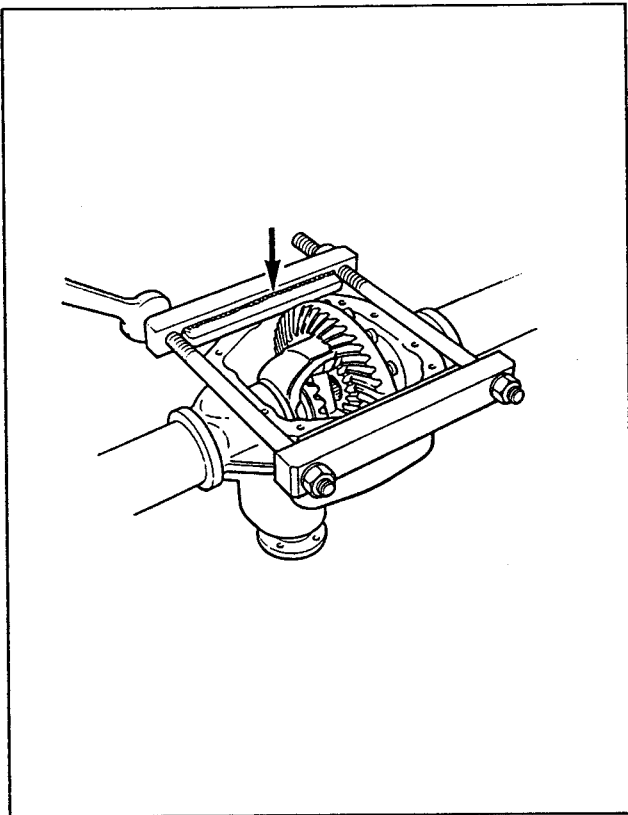

Fig. 11 Axle compression
13. To remove the differential case assembly it is necessary to relieve the preload from the differential bearings. A special axle compression tool GKN 131 is used for this operation which must be carried out with great care to avoid permanent damage to the casing. Referring to Fig. 11, position the tool GKN 131 on the axle casing so that the welded area on the tool is uppermost, and the through bolts are at right angles to the axle tubes. Tighten the through bolt nuts finger tight, keeping the frame of the tool
54. To refit the differential case assembly and preload the bearings it is necessary to compress the axle casing. Position the axle compression tool GKN 131 on the axle casing so that the welded area on the tool is uppermost, and the through bolts are at right angles to the axle tubes (Fig. 11). Tighten the through bolt nuts finger tight, keeping the frame of the tool square. Then tighten each through bolt nut ONE flat at a time up to a MAXIMUM of THREE flats.